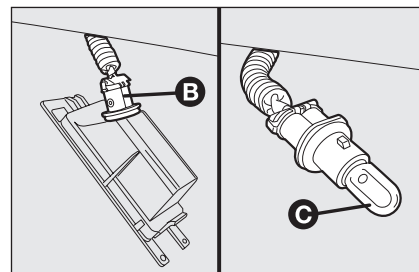

fig. 35
- ☐ turn the bulb holder **B-fig. 35** clockwise;